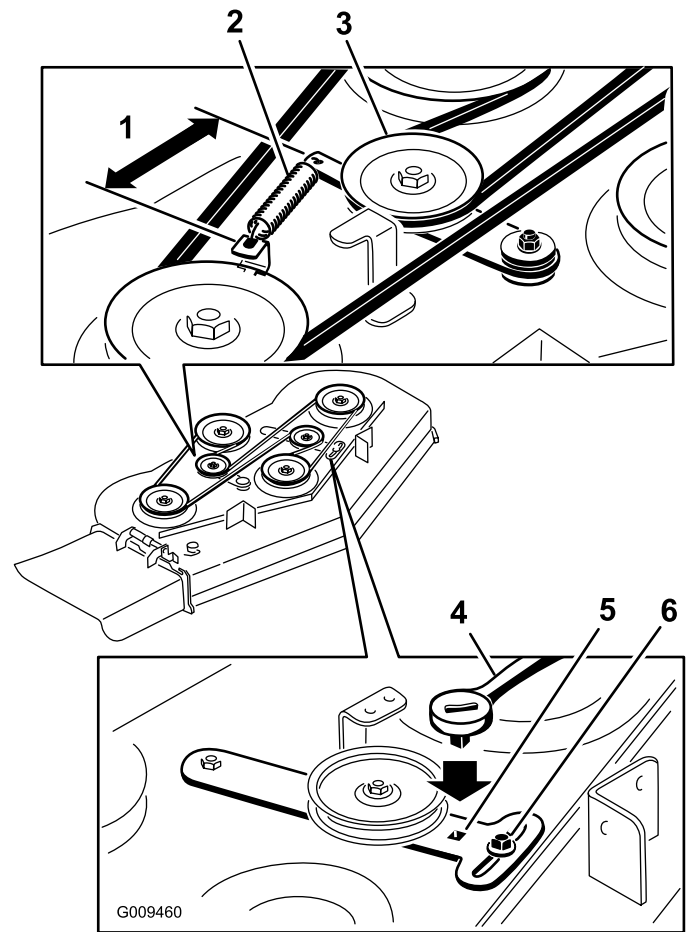

Figure 65
5. Remove the worn mower belt (Figure 65).
6. Install the new mower belt around the deck pulleys and clutch pulley (Figure 65).
7. Using a ratchet in the idler arm, tighten the idler pulley until the spring is stretched 5-3/4 inches (14.6 cm) from hook to hook (Figure 65).